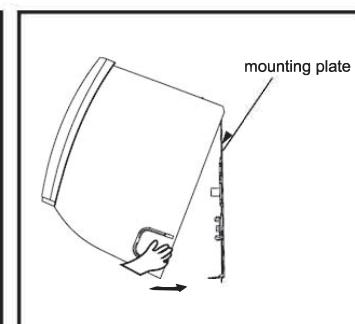

Fig. 8
- 1) Hang the unit onto mounting plate(Fig. 8).